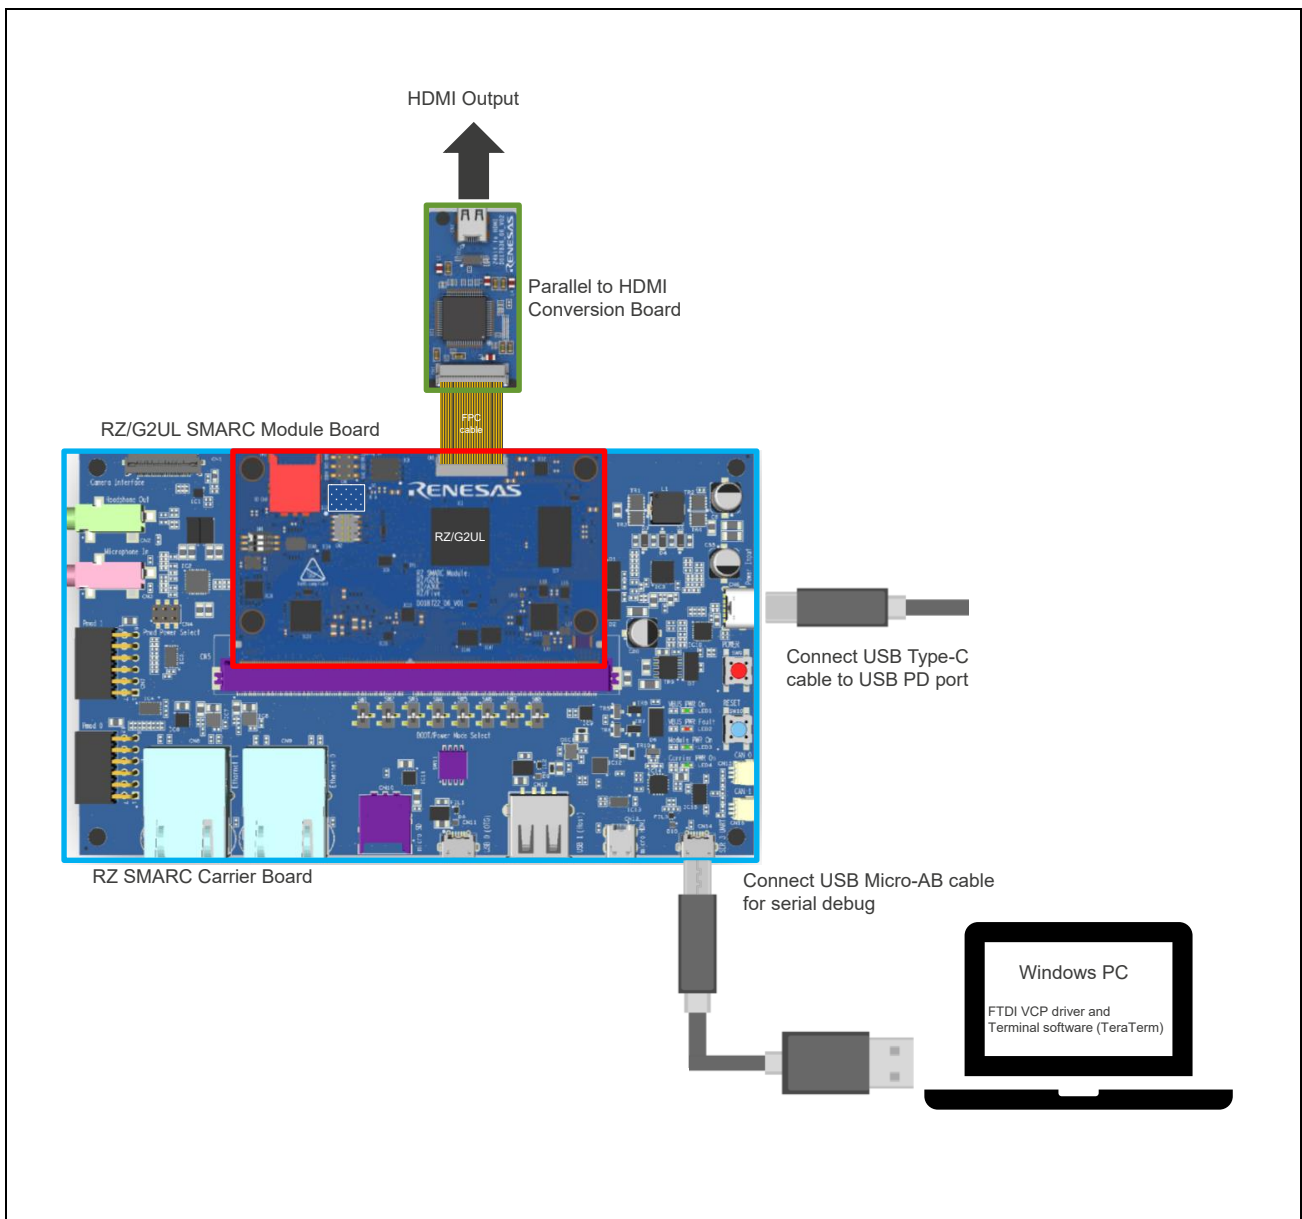

Figure 5.1 Example of System Configuration Using the Parallel to HDMI Conversion Board
**Figure 5.1** shows an example of system configuration using the parallel to HDMI conversion board.